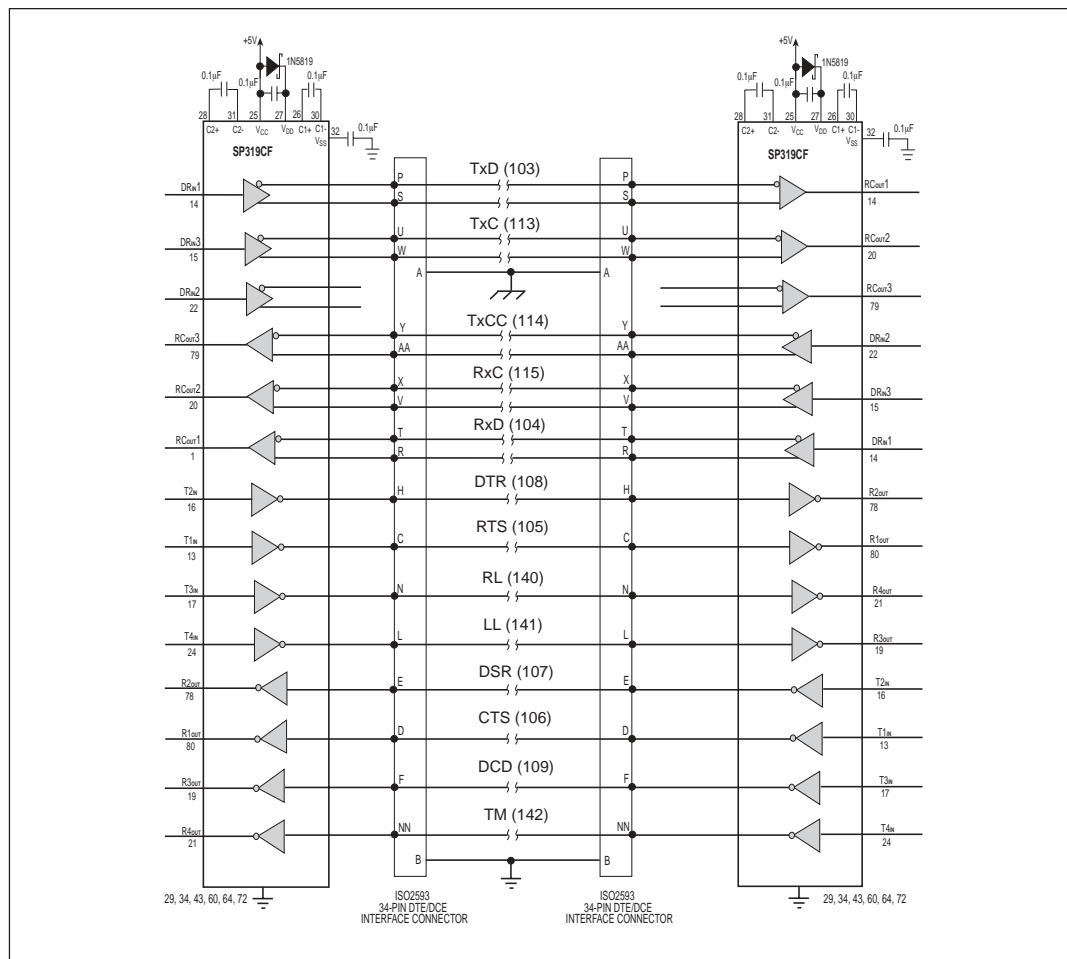

Figure 25. Typical DTE-DCE V.35 Connection using the SP319
The SP319 is a single chip device that can implement a complete V.35 interface. Three (3) V.35 drivers and three (3) V.35 receivers are used for clock and data signals and four (4) RS-232 (V.28) drivers and four (4) RS-232 (V.28) receivers can be used for the control signals of the interface. Figures 25 to 28 show the SP319 configured in DTE and DCE applications along with an ISO-2593 pin out.